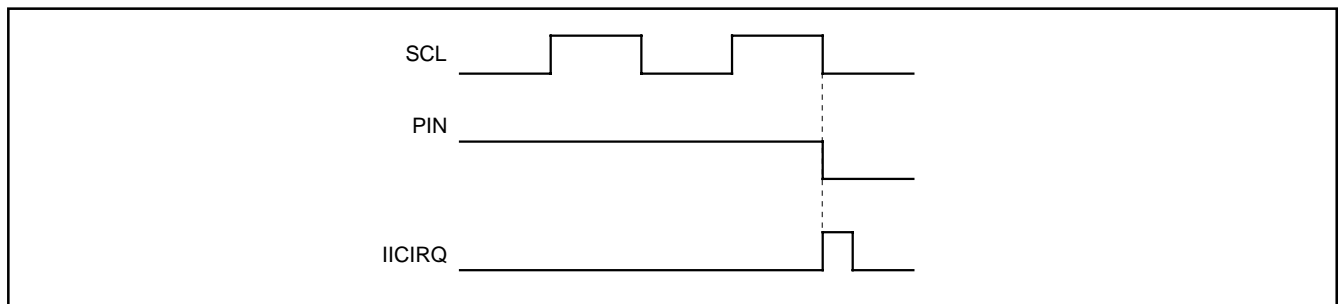

Fig. 8.6.8 Interrupt Request Signal Generation Timing
This bit generates an interrupt request signal. Each time 1-byte data is transmitted, the state of the PIN bit changes from "1" to "0." At the same time, an interrupt request signal is sent to the CPU. The PIN bit is set to "0" in synchronization with a falling edge of the last clock (including the ACK clock) of an internal clock and an interrupt request signal occurs in synchronization with a falling edge of the PIN bit. When detecting the STOP condition in slave, the multi-master I2C-BUS interface interrupt request bit (IR) is set to "1" (interrupt request) regardless of falling of PIN bit. When the PIN bit is "0," the SCL is kept in the "0" state and clock generation is disabled. Figure 8.6.8 shows an interrupt request signal generating timing chart. The PIN bit is set to "1" in any one of the following conditions.